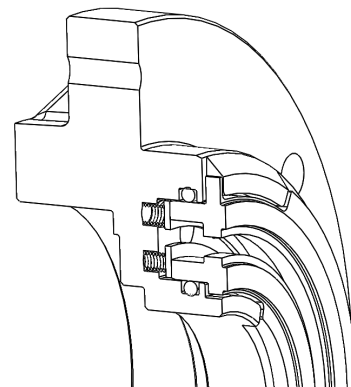

Figure 5 – Carbon Assembly (Plan 53)
2. Install backer rings (153D and 153G) into cartridge (153R). Bottom of backer ring should rest on springs. See Figure 5.
3. Apply a small amount of grease to o-rings (153C and 153H). Install o-rings into cartridge (153R). See Figure 5.
4. Align 3 tang features of carbons (153J and 153B) with 3 tang features of cartridge (153R). Gently press carbon into cartridge assembly taking care to not damage raised sealing face. See Figure 5.